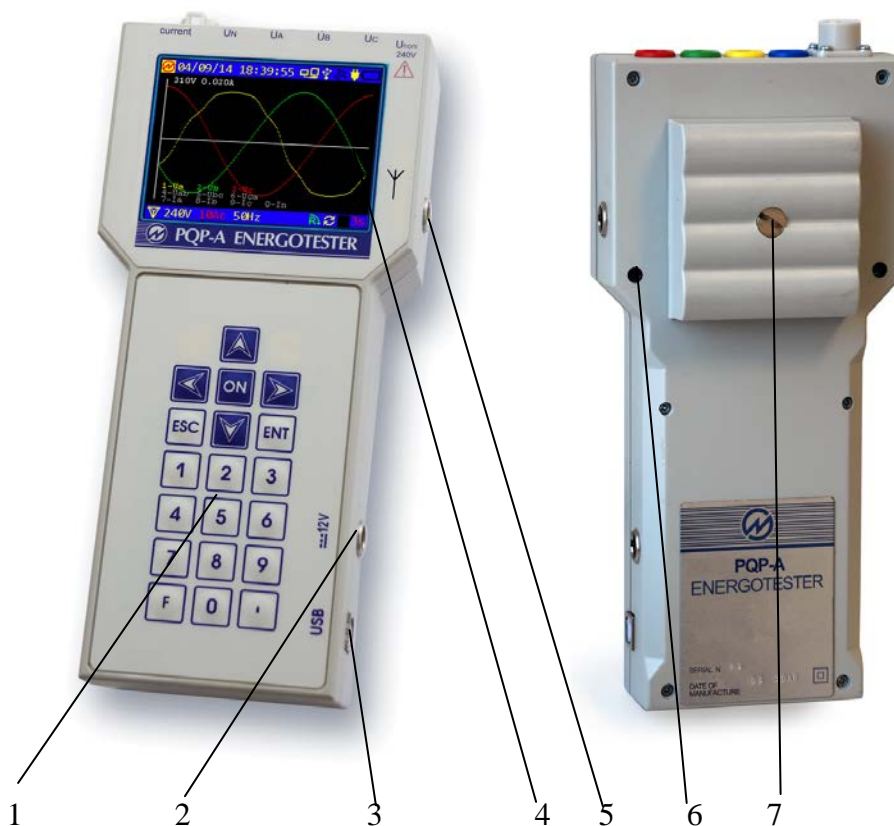

Fig. 3.2. Front and rear panels
Front and rear panels are shown in Fig. 3.2.
- Connect "12.6 V" output of the Power Adapter to "DC 12.6 V" input of the Instrument (see Fig. 3.2);
Operator interface was designed on the model of nested menus. Keys `ENT`, `ESC`, ↓, ↑, ←, and ⇒ are used to navigate to a desired menu item. Location and functions of the controls and indicators are given in Fig. 3.2 and Table 3.1.